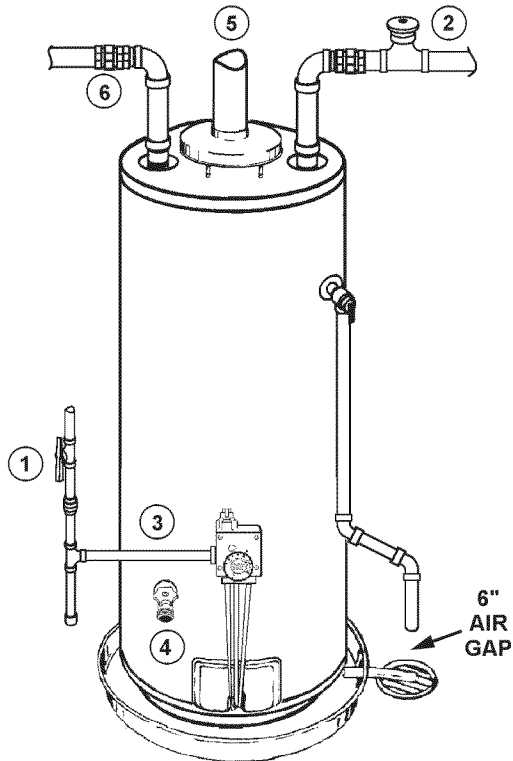

FIGURE 2.
If the main gas line Shut-off valve serving all gas appliances is used, also shut "OFF" the gas at each appliance. Leave all gas appliances shut "OFF" until the water heater installation is completed, see Figures 2 and 3.
- ② Turn "OFF" the water supply to the water heater at the water shut off valve or water meter. Some installations require that the water be turned off to the entire house, see Figures 2 and 4.
- ③ Check again to make sure the gas supply is "OFF" to the water heater. Then disconnect the gas supply connection from the gas control valve.
- ④ Attach a hose to the water heater drain valve and put the other end in a floor drain or outdoors. Open the water heater drain valve. Open a nearby hot water faucet which will relieve pressure in the water heater and speed draining. The water passing out of the drain valve may be extremely hot. To avoid being scalded, make sure all connections are tight and that the water flow is directed away from any person, see Figures 2 and 5.